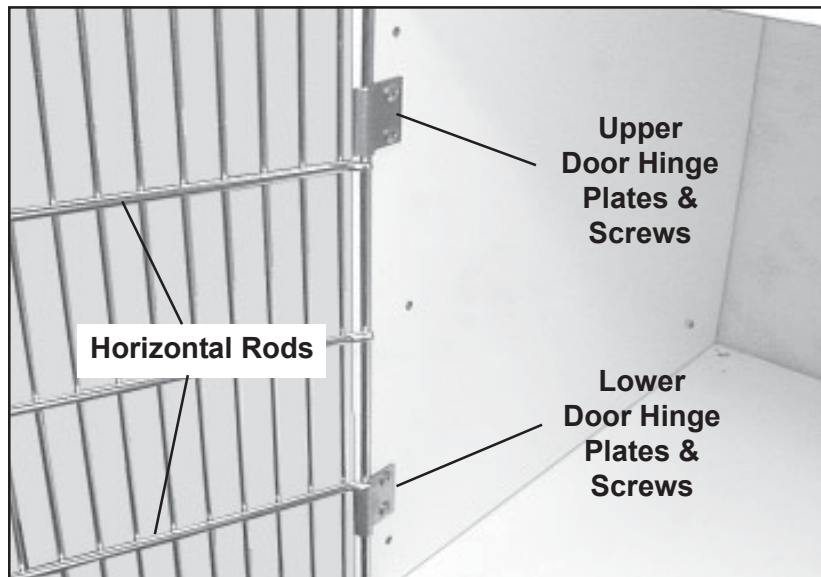

Figure 53. Upper & Lower Door Hinges
2. With a Phillips screwdriver, slightly loosen all four hinge plate screws (Figure 53).